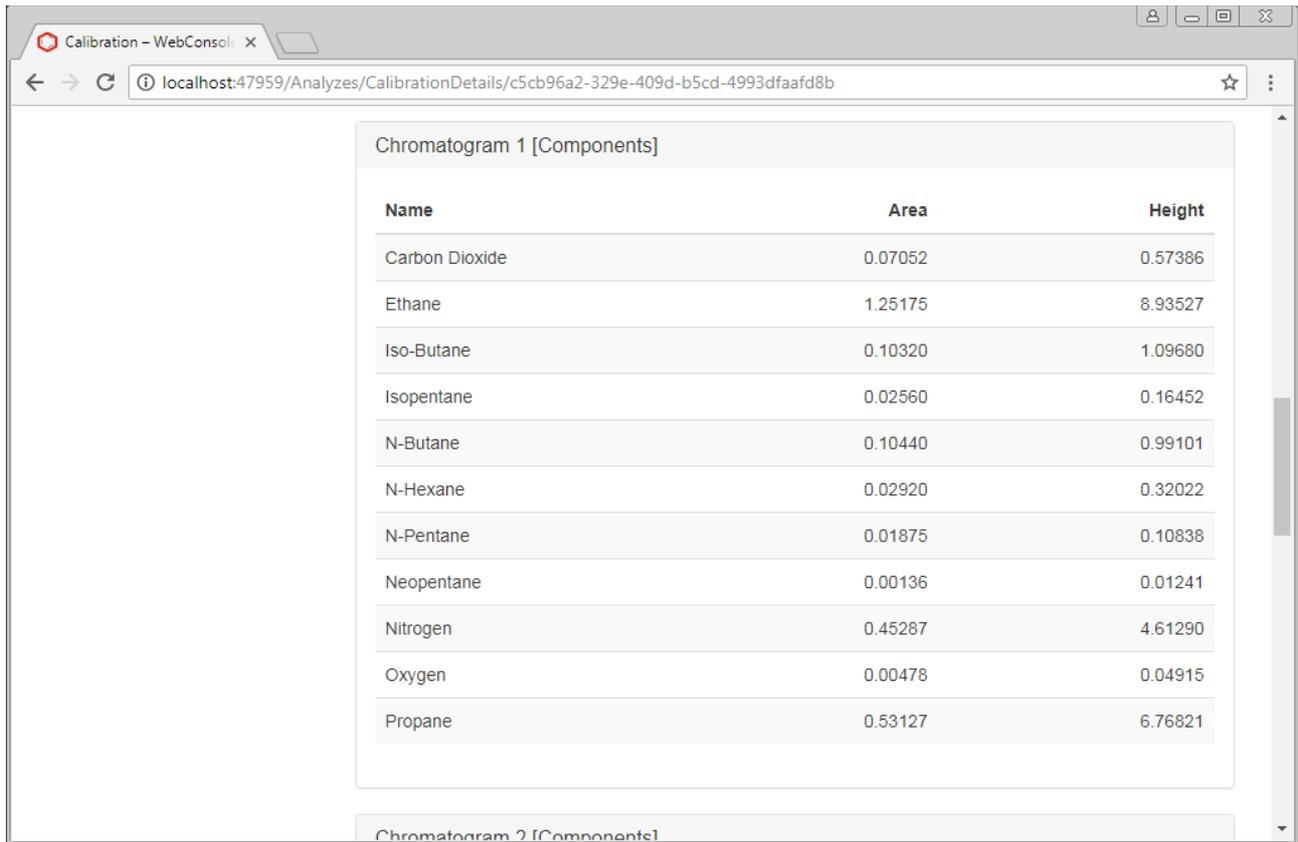

Figure 29 – Calibrations. Details (Calibration chromatograms)
- "Chromatogram" – calibration chromatograms on which the calibration factors were calculated (Figure 29).